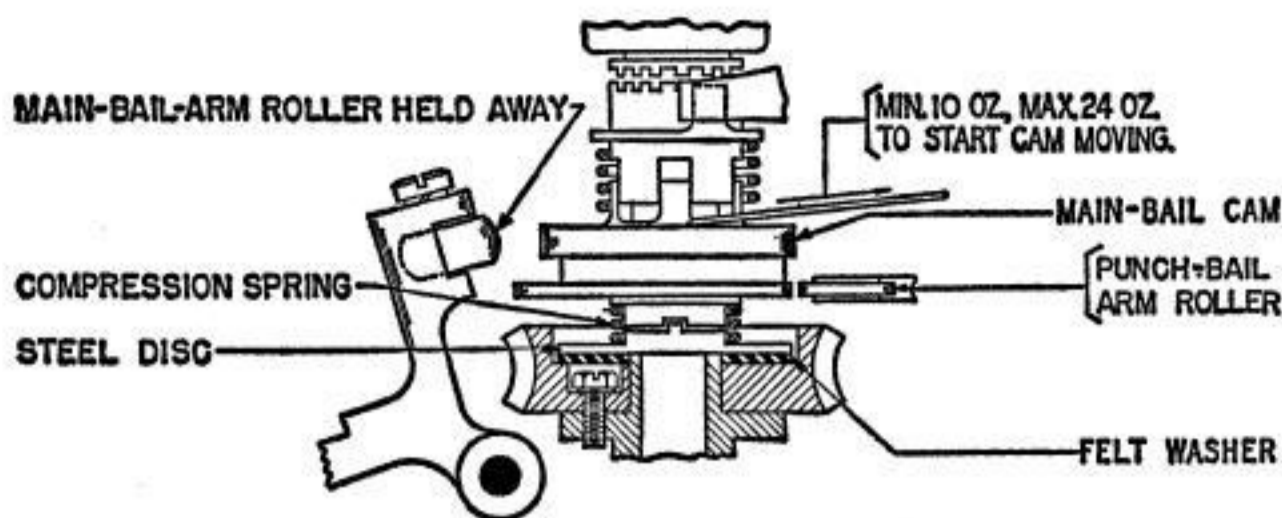

Fig. 72
- (h) 2.147 and Fig. 72 — revised
(a) It should require a pull as indicated in Fig. 72 to start the mainbail cam moving opposite to its normal direction of rotation. **Fig. 72**
6. Mainbail-cam Clutch-torque requirement in 2.147 and Fig. 72 is revised to include the change authorized for this apparatus by BSP P98.520.